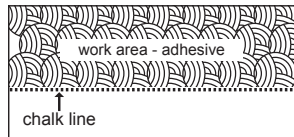

Figure 12
- Spread sufficient amounts of the recommended adhesive with the recommended trowel in an area that can be covered within the working time of the adhesive. Be sure not to spread adhesive too far ahead of your work area (Figure 12).